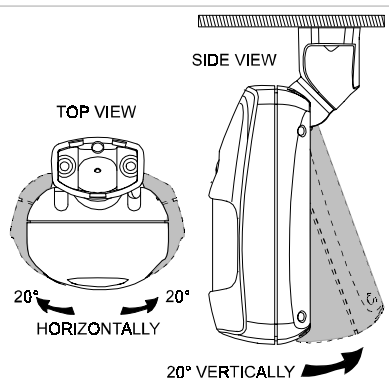

Figure 10. Tilt/Swivel Limits
- J. Tilt the detector down or swivel it so that it faces the desired direction. Figure 10 demonstrates the various tilt/swivel possibilities.